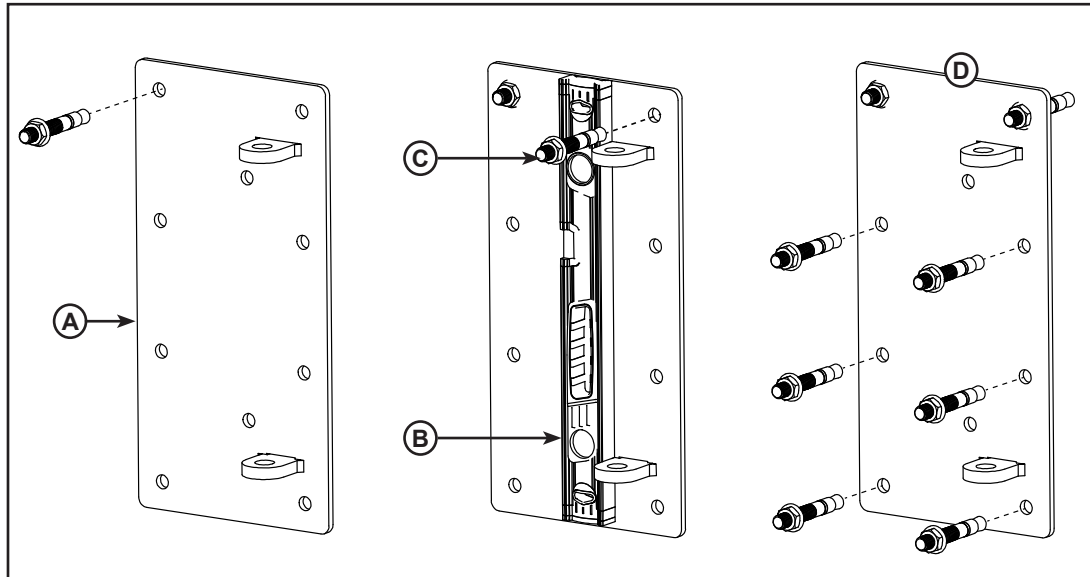

Figure 7
1. Starting with an upper mounting hole, use a hammer drill and a 5/8" masonry bit to drill the first anchor hole. Install an anchor bolt in the first hole **(A)** without overtightening. See **figure 7**